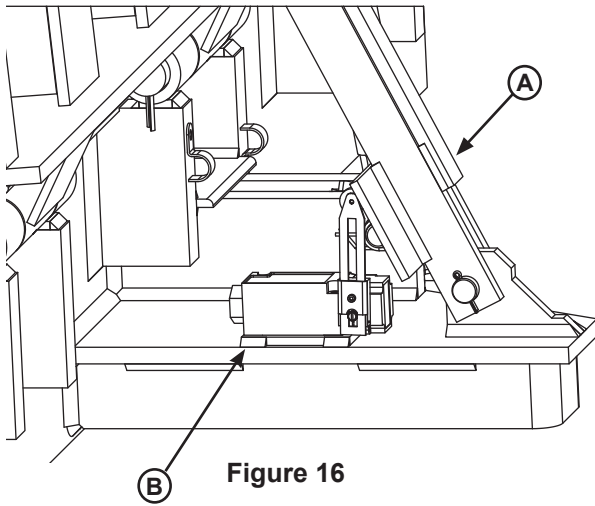

Figure 16
2. Lock out the storage prop (A) with the prop pin and clip, then lock-out and tag-out the leveler.
3. Remove the screws holding the stored limit switch (B) in place. Move the stored limit switch away from the storage prop. See **Figure 16**.